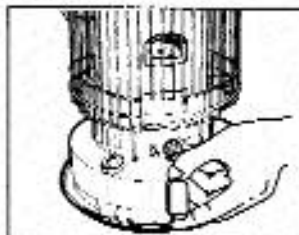

Fig. 15
- Pull on the ignition lever(Fig. 15) to bring the glowing igniter into contact with the wick.